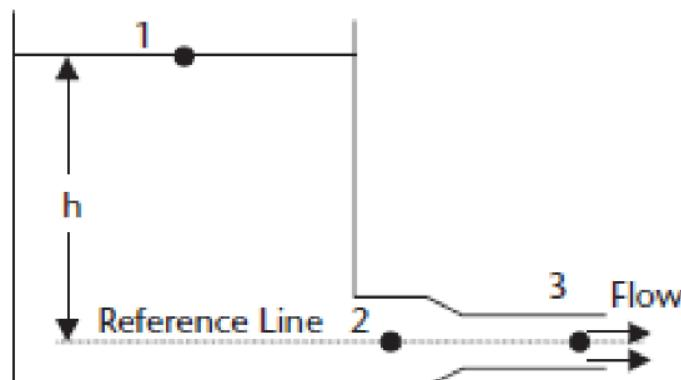

Figure 2(c)/ Rajah 2(c)
- CLO1 (c) If the pressure at point 2 is 130kPa, calculate the height of the column of water  $h$  in Figure 2(c) below. The diameter at point 2 and 3 are 30 cm and 15 cm, respectively.